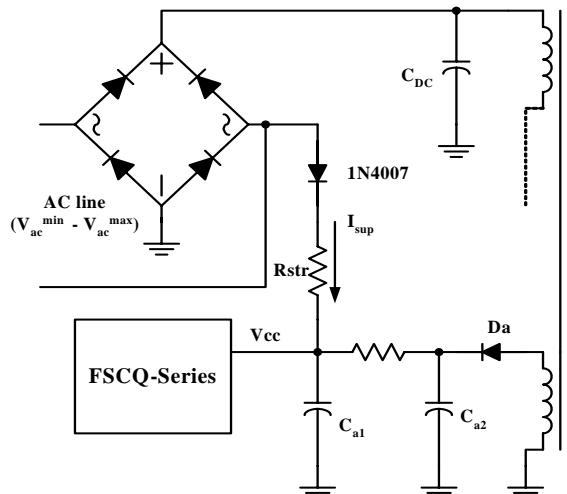
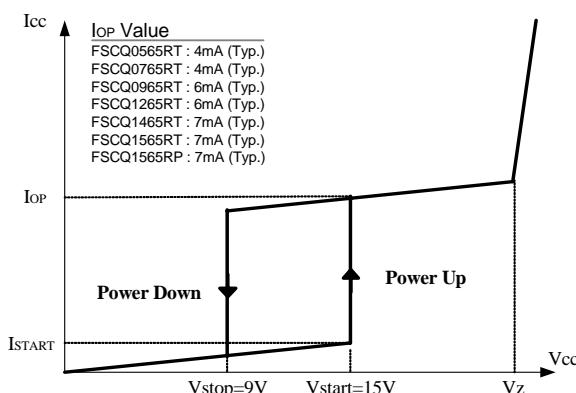

Figure 4. Startup circuit
Figure 5. Relationship Between Operating Supply Current and V_{cc} Voltage
1. Startup: Figure 4 shows the typical startup circuit and the transformer auxiliary winding for the FSCQ-Series. Before the FSCQ-Series begins switching, it consumes only startup current (typically 25uA). The current supplied from the AC line charges the external capacitor (C_{a1}) that is connected to the V_{cc} pin. When V_{cc} reaches the start voltage of 15V (V_{start}), the FSCQ-Series begins switching, and its current consumption increases to I_{op} . Then, the FSCQ-Series continues its normal switching operation and the power required for the FSCQ-Series is supplied from the transformer auxiliary winding, unless V_{cc} drops below the stop voltage of 9V (V_{stop}). To guarantee the stable operation of the control IC, V_{cc} has under voltage lockout (UVLO) with 6V hysteresis. Figure 5 shows the relationship between the operating supply current of the FSCQ-Series and the supply voltage (V_{cc}).